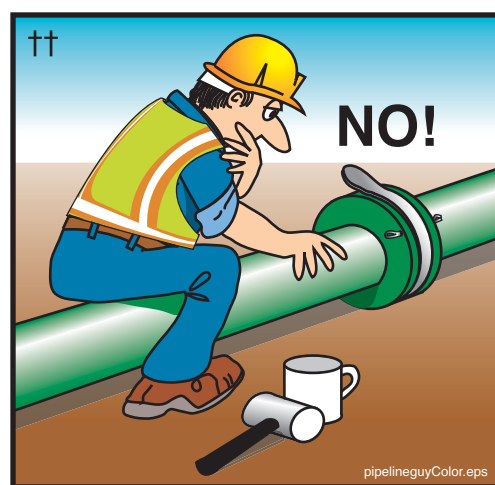

Figure 78
16.16 **⚠ WARNING** Never stand on, sit on, or straddle a pipeline while it's in use, or whenever it is pressurized. Pipeline wears out with each stroke of the pump. If the pipe bursts, you want to be to the side of it, not on top of it (Figure 78).